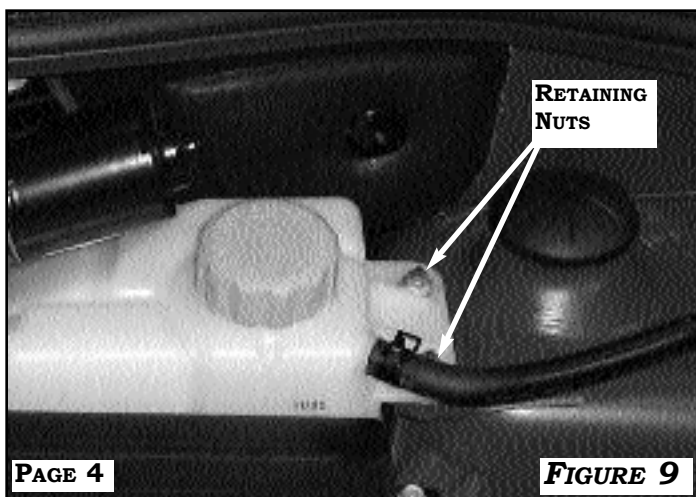

FIGURE 9
2. REMOVE (2) TWO 10MM NUTS SECURING THE RADIATOR SURGE TANK AND PULL AWAY FROM FIREWALL TO ACCESS FIREWALL GROMMET LOCATED BEHIND IT. **FIGURE 9**